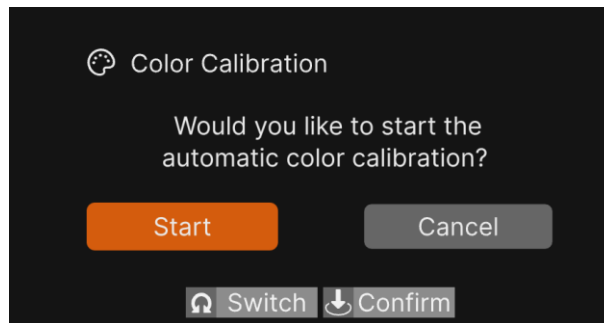
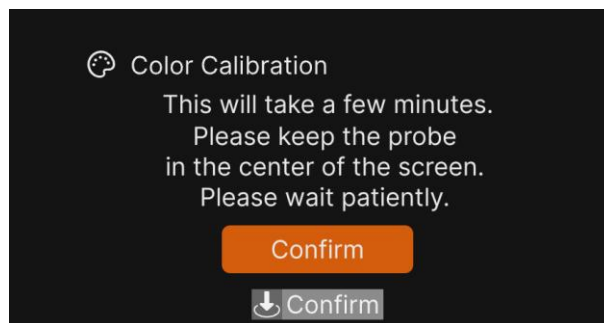

Figure 5.2-32 Start Calibration Prompt
Figure 5.2-33 Probe Placement Prompt
Once the calibration starts, select "**START**", as shown in Figure 5.2-32. and press the joystick down to confirm and proceed with the calibration. A prompt indicating the probe placement will appear, as shown in Figure 5.2-33.
- When the probe placement prompt appears as shown in Figure 5.2-33, a center marker will automatically load in the center of the screen to facilitate probe placement.